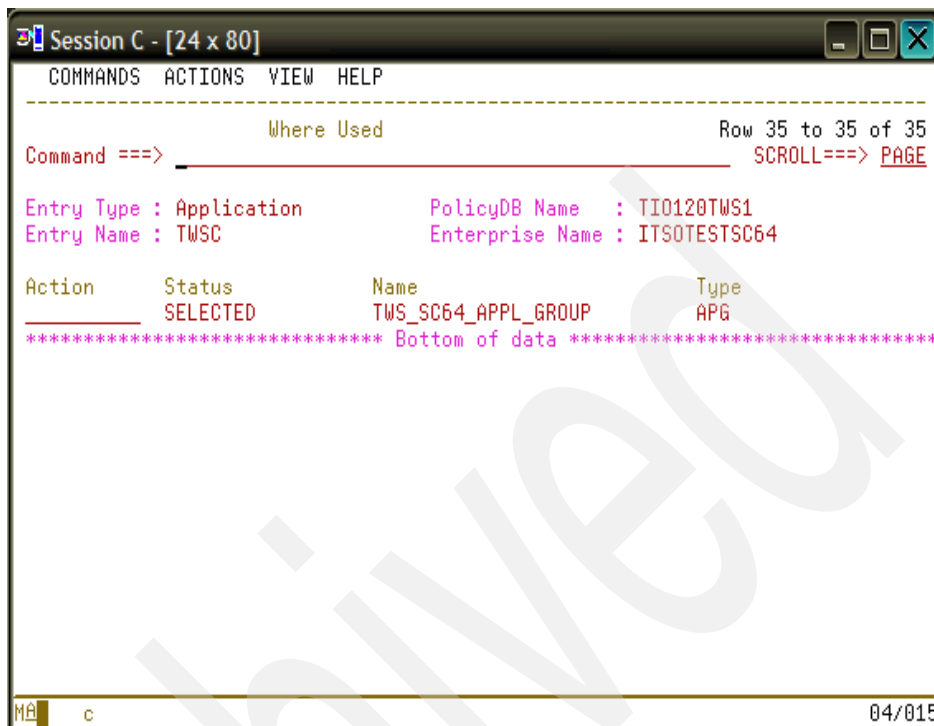

Figure 4-25 Where Used panel for TWS for z/OS controller with APG selected
7. We have 35 possible names to select in our scenario. So, scroll down until TWS_SC64_APPL_GROUP appears. Place an s in the Action column to select the name of the application group (APG) to use and press Enter. The Status column for the name that you choose changes to SELECTED as shown in Figure 4-25 on page 128.